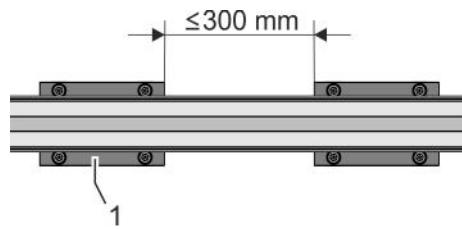

Fig. 13: Positioning clamping bars
2. → Ensure that a distance of 300 mm between the clamping bars (Fig. 13/1) is not exceeded at maximum load.